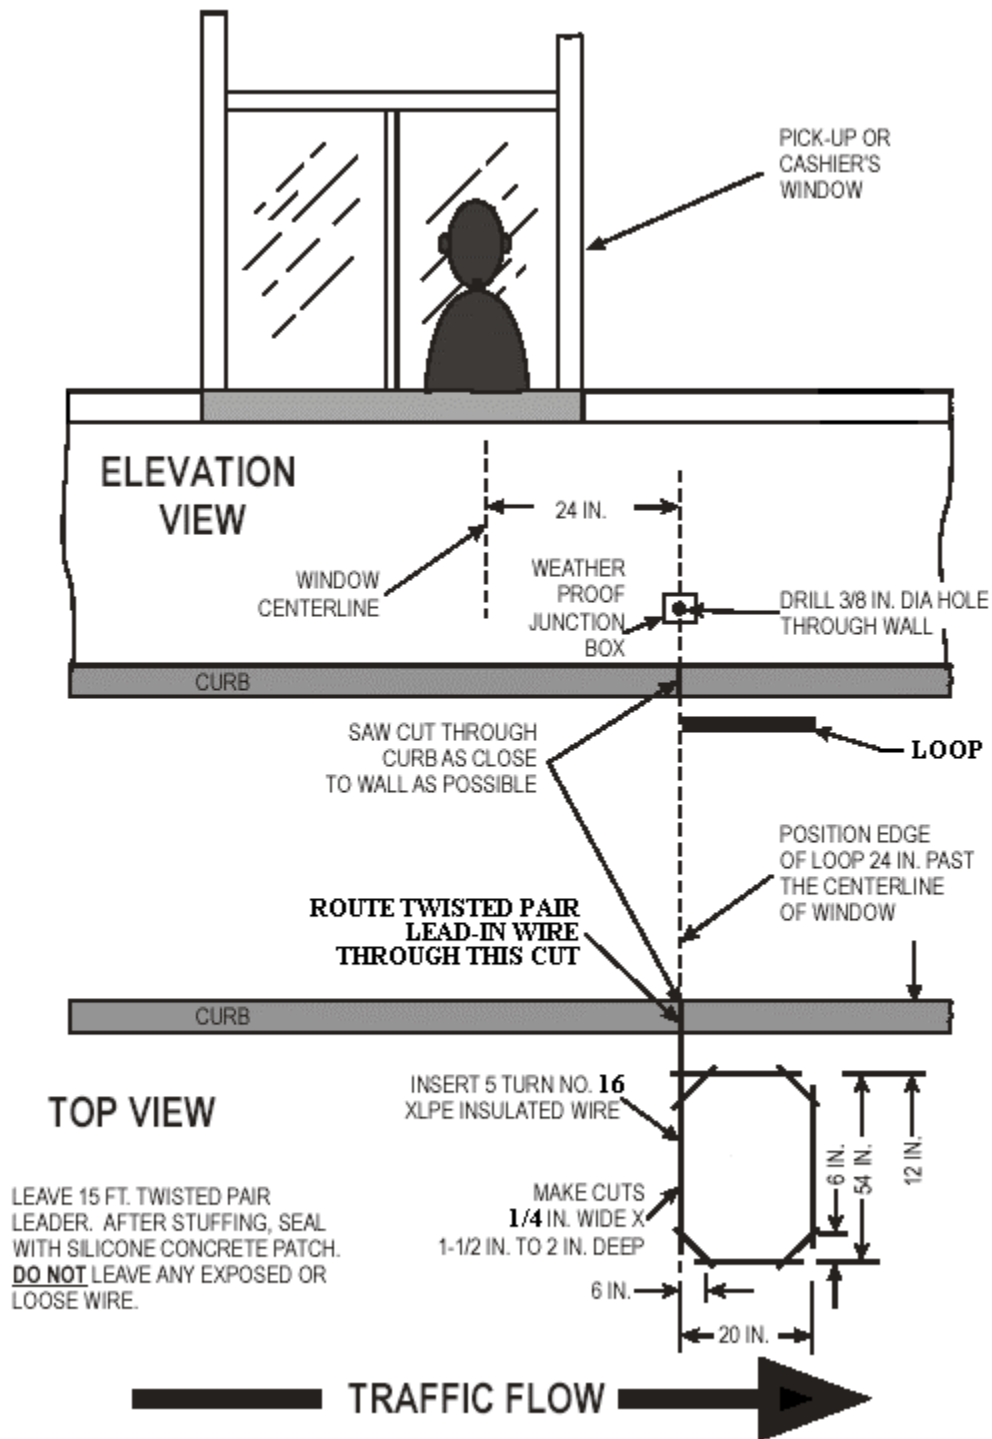

Figure 1
1. Install junction boxes under cashier's window and pick-up window as show in figure 1.
6. Make saw cuts as shown in figure 1 through the curb and as close to the building wall as possible.
7. Drill a 3/8-inch diameter hole through the wall as shown in figure 1. This hole should be located in the approximate location of the junction box for that particular window (cashier/pick-up).